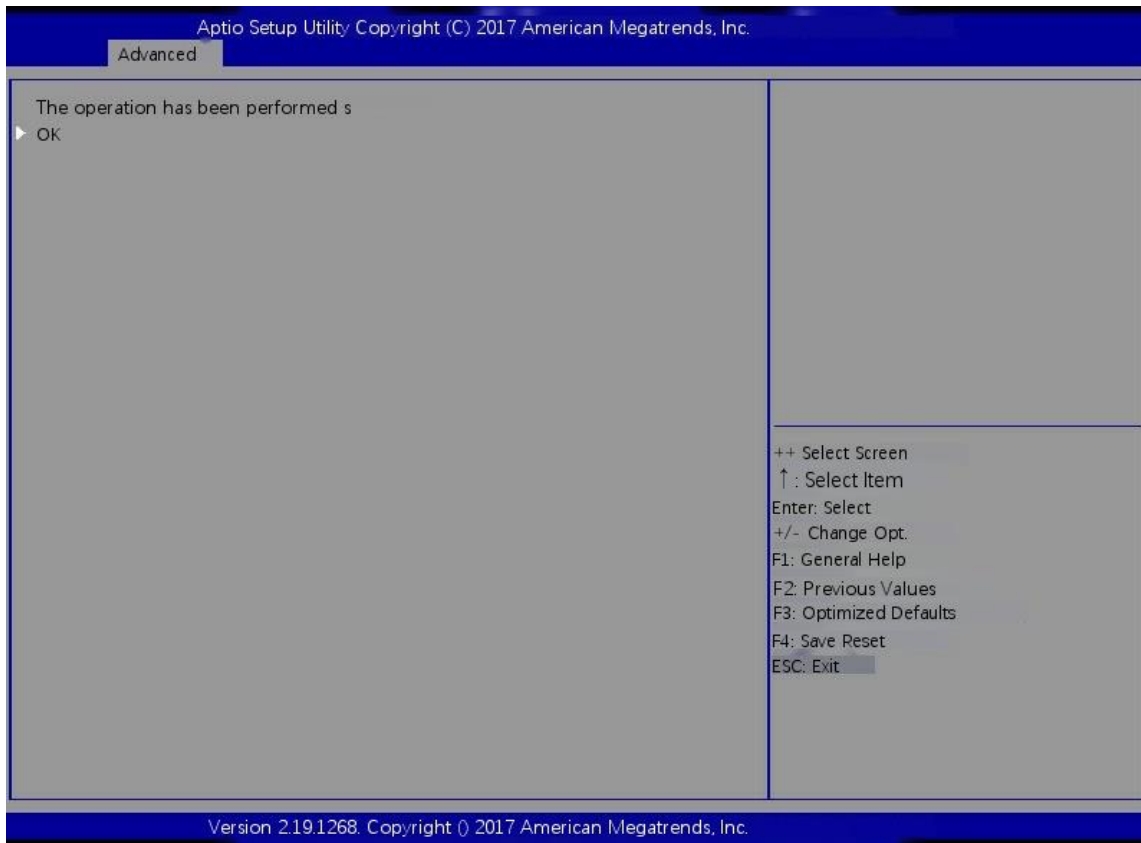

Figure 6-30
f) Enter the interface shown in Figure 6-30 to complete the raid deletion operation.